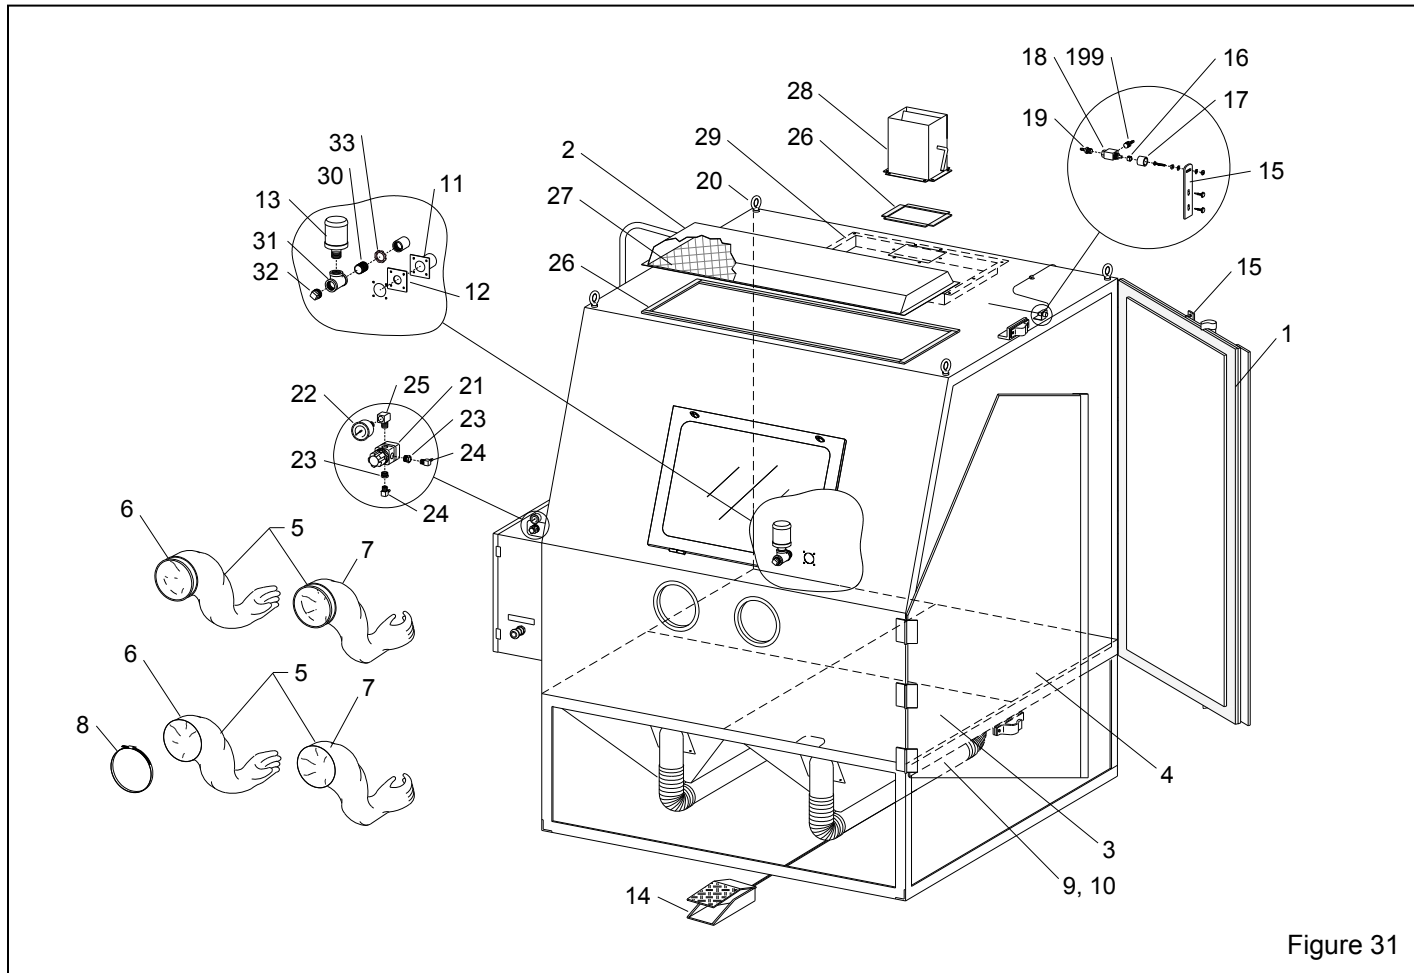

Figure 31
9.5 Cabinet Replacement Parts, Figure 31